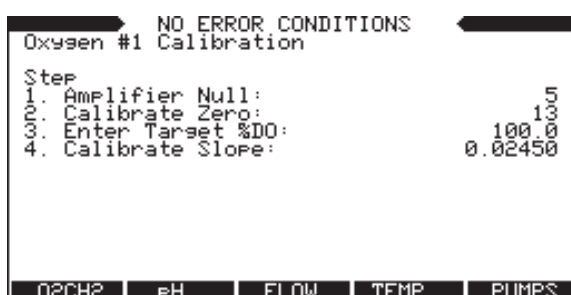

Figure 44. Calibration screen of Oxygen Channel One
1. Press [1] on the control pad to display the Amplifier Null screen with the current value of the probe signal (Figure 44). There are two cable connections for each of the oxygen probes. The oxygen probe signal is transmitted through the BNC connector.